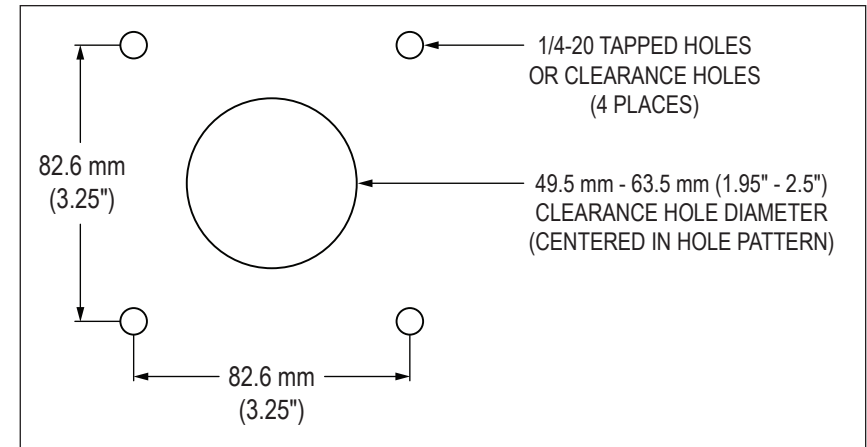

FIGURE 1 – BENCHTOP MOUNTING PATTERN
2. Cut or drill mounting pattern in surface. Refer to Figure 1 for the benchttop mounting pattern.